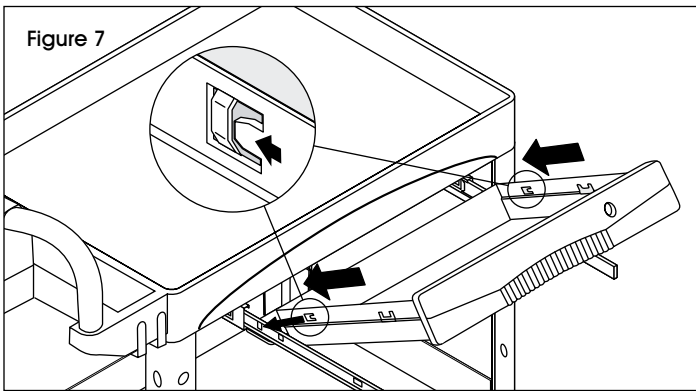

Figure 7
7. Place drawer into drawer slides by aligning drawer cut outs with slots in the drawer slides. (See Figure 7)